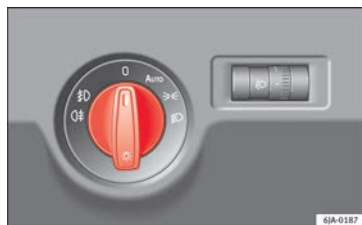

Fig. 45 Instrument panel: light control.
The location of the controls of **right-hand drive** cars differs slightly from the location shown here » **Fig. 45** » page 61. However, the symbols indicating the respective positions of the controls remain the same.
- Turn the light switch » **Fig. 45** to position \Rightarrow .
- Turn the light switch » Fig. 45 to position .
- Turn the light switch » Fig. 45 to position 0.
Daytime running lights are signalling devices for improving road safety. The lights are built into the headlights and come on each time the ignition is turned on if the light switch is in position 0 or AUTO » Fig. 45. It is automatically switched off when the side lights are turned on.
If the light switch is in this position **AUTO** » Fig. 45, the side lights, headlights and the number plate lights will turn on or off automatically.